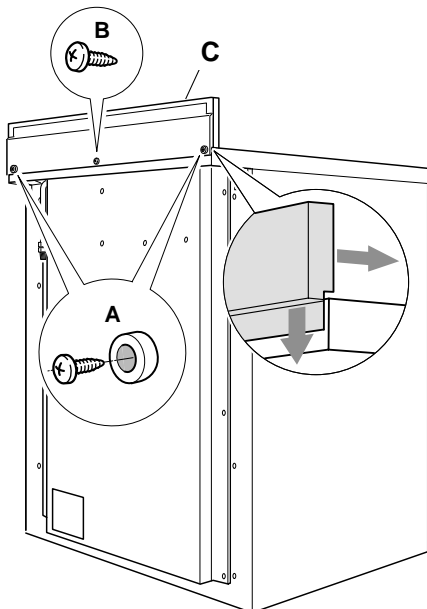

Fig. 2.3
Before installing the cooker, assemble the backguard "C" (fig. 2.3).
- Assemble the backguard as shown in figure 2.3 and fix it by screwing the central screw "B" and the spacers "A".